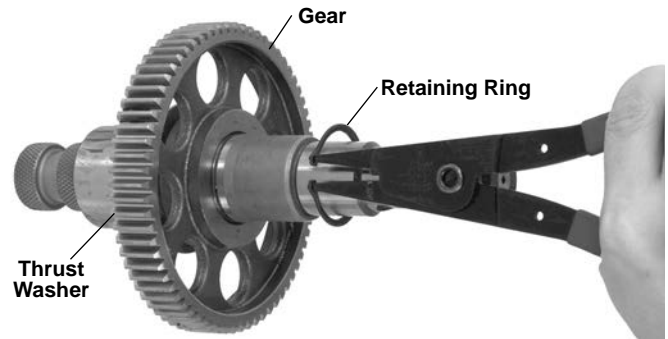

Figure 2 – Removing Retaining Ring
5. Remove retaining ring from driveshaft and slide gear off. (See Figure 2.)